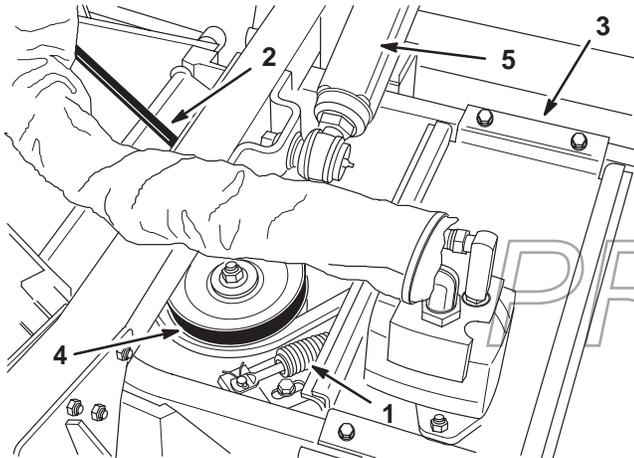

Figure 64
Note: When the shoulder bolt flanges are positioned 1/8 in. (3 mm) from the pulley end of the slots, the length of the compression spring (Fig. 64) will be approximately 5 in. (127 mm).
4. Remove flange head screws securing gearbox plate and separate plate and drive motor assembly from the deck (Fig. 64). Be careful not to bend, twist, kink or damage flexible hydraulic lines.
3. Remove flange head screws securing gearbox plate and separate plate and drive motor assembly from the deck (Fig. 64). Be careful not to bend, twist, kink or damage flexible hydraulic lines.
4. Remove hex head screws and flange locknuts securing each lift arm to the castor arm and separate from the arm (Fig. 64).